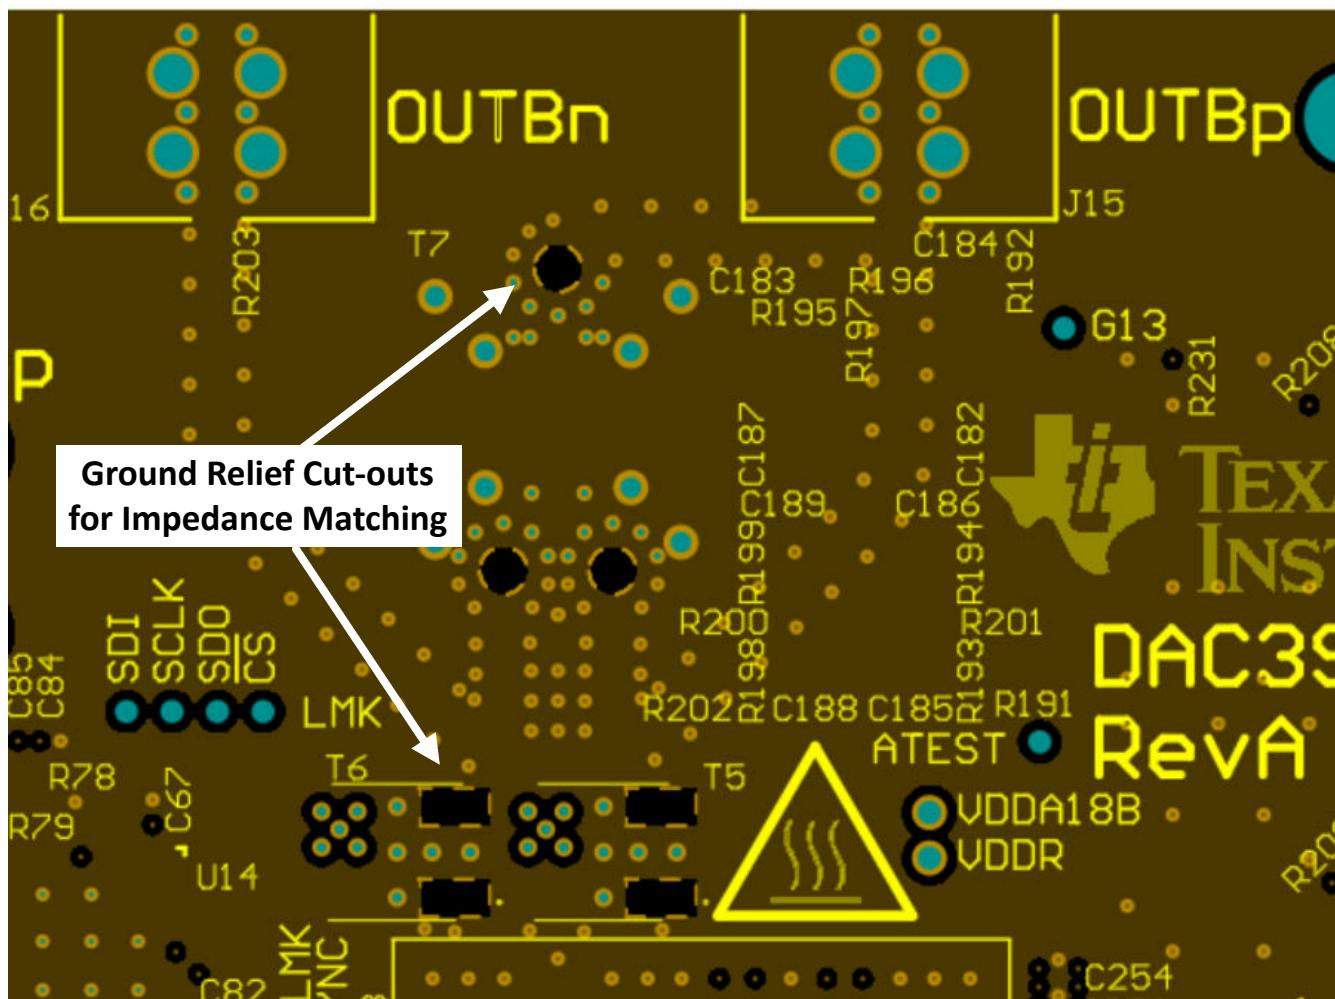
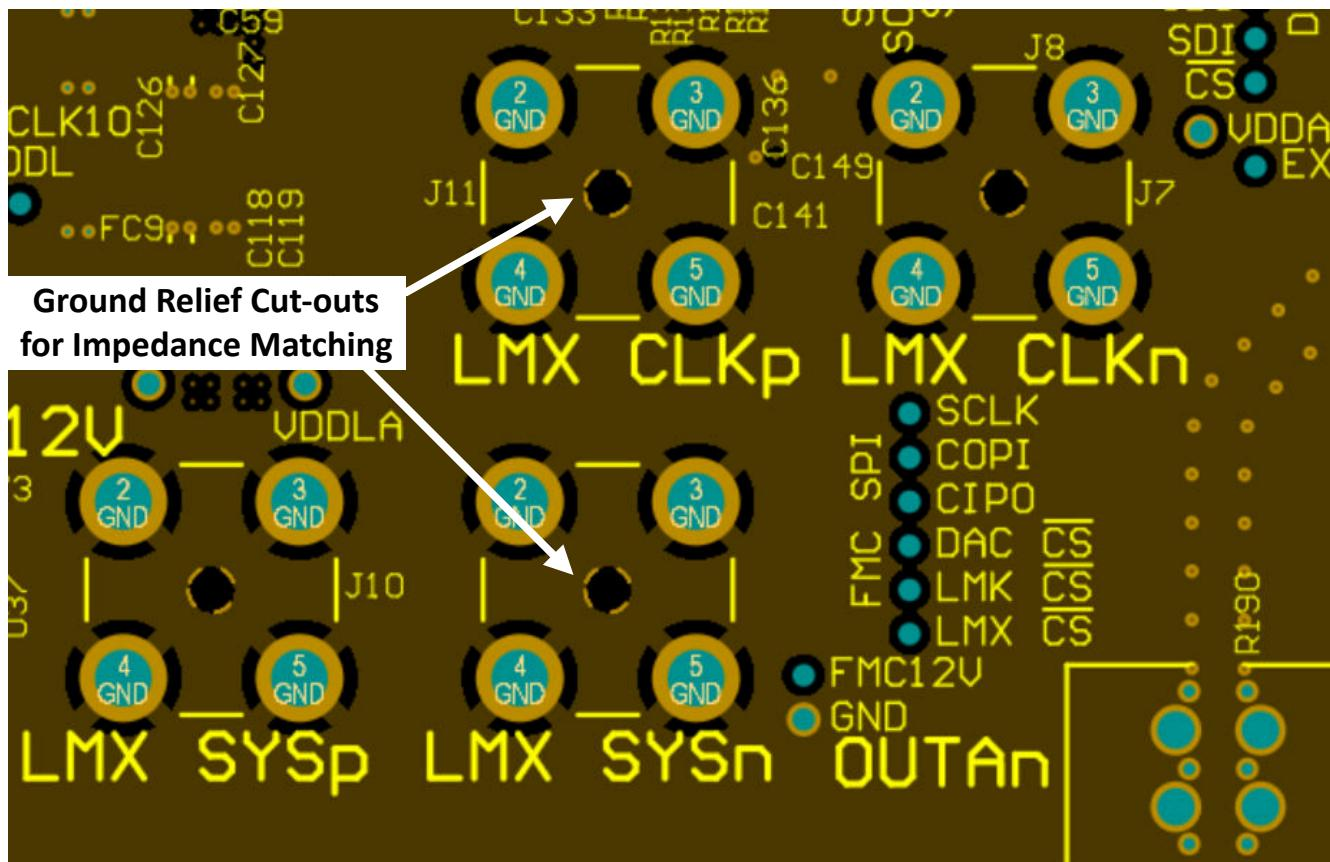

図 8-24. Ground Cut-outs below Balun and Bias-T Pins
図 8-25. Ground Cut-out Below SMA Connector Center Pin
- Incorporate any ground plane cutouts necessary at component landing pads, ie – SMA connectors, baluns, etc., to avoid impedance discontinuities at these locations. Cut-outs below these landing pads on one or multiple ground planes to achieve a pad size or stackup height that achieves the needed  $50\text{-}\Omega$ , single-ended impedance. See 図 8-24 and 図 8-25 as an examples.